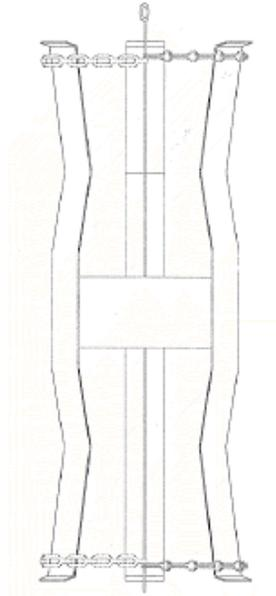

Figure 8: Compressed Spider Target
4. Slide an assembled spider magnet (as shown in Figure 8) over and along the settlement pipes until the spider magnet reaches the appropriate location. **Ensure the spider magnet is orientated with the loop of the Release Pin closest to the mouth of the borehole** (so it can be pulled out of the spider magnet).